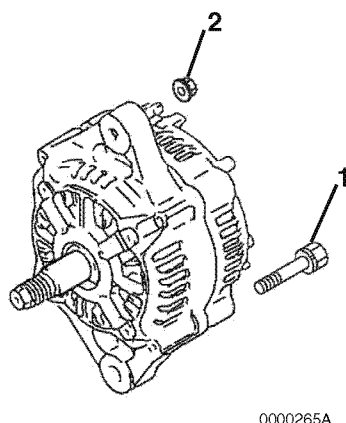

Figure 11-15
5. Align the front frame housing with the rear frame housing. Reinstall the two bolts (**Figure 11-15, (1)**) and two nuts (**Figure 11-15, (2)**).